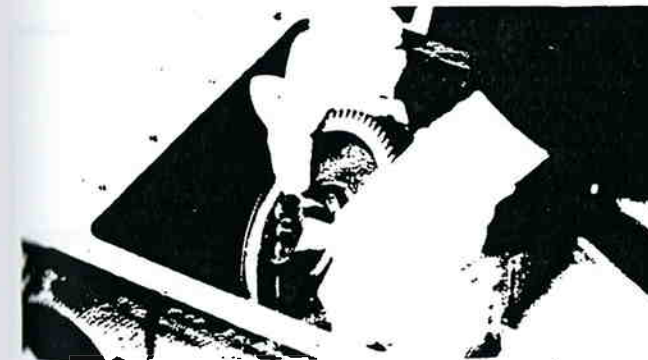

Figure 13-77. Removing Countershaft Assembly.
2. Move either countershaft assembly to the rear, lift front of shaft to the center of case by the drive and PTO gears and remove through top of case. Repeat same process for other countershaft assembly (figure 13-77).